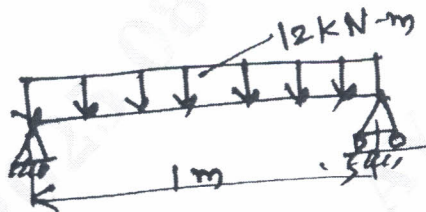

Fig Q6
- 6 Fig Q6. Shows simply supported beam subjected to uniformly distributed load. Obtain the maximum deflection. Take Young's modulus  $E = 200 \text{ GPa}$ , and moment of inertia  $I = 2 \times 10^6 \text{ mm}^4$